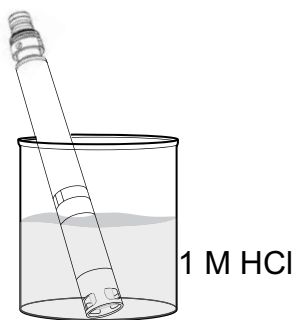

Figure 73 Cleaning the pH and pH/ORP sensor with hydrochloric acid
1. Soak the sensor for 30 to 60 minutes in one molar (1 M) HCl (Figure 73). HCl reagent can be purchased from most chemical or laboratory distributors. To prevent injury, carefully follow the HCl manufacturer's instructions. If HCl is not available, soak in white vinegar.